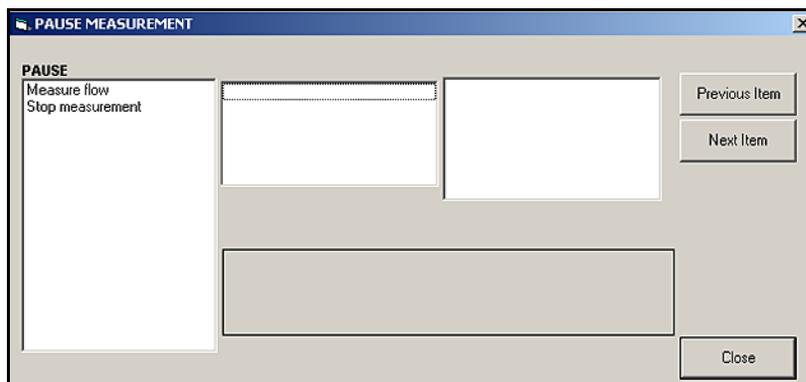

Figure 21: The *Pause Measurement* Window
2. Expand the *Edit Functions* option, and double-click on the *Pause Measurement* entry. A window similar to *Figure 21* below opens.